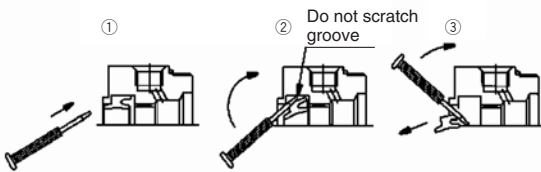

Fig. 1 Removal of rod seal
- ③7 Rod seal A
- ③9 Piston seal
- ④0 Cylinder tube gasket
- ③7 Rod seal A: Insert a watchmakers screw driver to pull out the seal. Take care not to damage the seal groove of the cover. (Fig. 1)